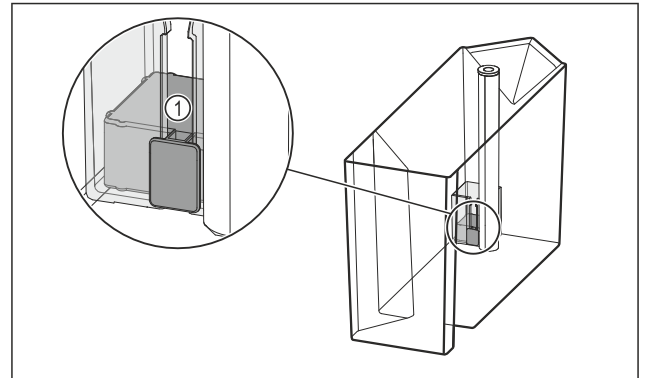

Fig. 100
- ▶ Check whether the float Fig. 100 (1) is jammed. If the float is jammed: